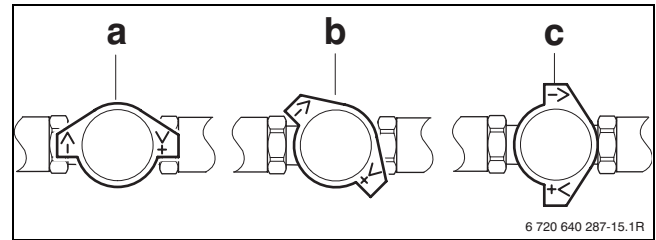

Fig. 16 Shut-off valve with gravity brake in the flow
- ▶ Open the gravity brakes in the flow and return (→ Fig. 16 and 17, page 16).